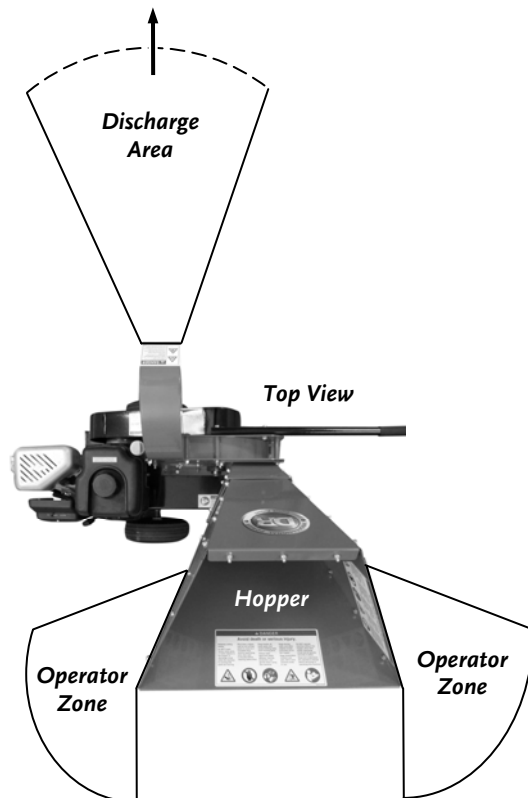

Figure 13
- Only operate the DR 11.5 SELF-FEEDING CHIPPER from the Operator Zones (**Figure 13**).